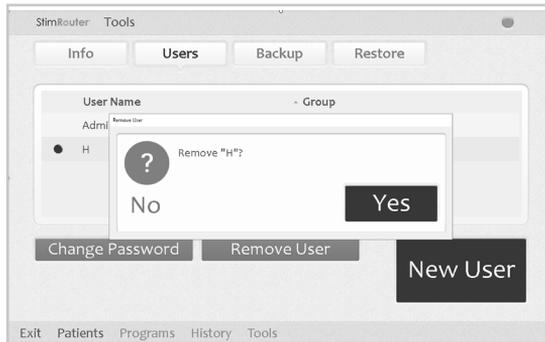

Figure 10-4: Removing a user
1. Press “Tools” on the Menu Bar, press the Users Tab, select a user name, and then press the “Remove User” button. Confirm “Yes” or “No” when prompted. See Figure 10-4.